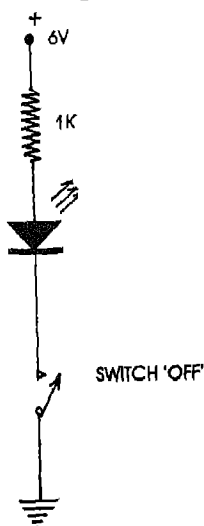

Fig. 9.5
- When the transistor is cut-off it behaves like an open switch as shown in Fig. 9.5.